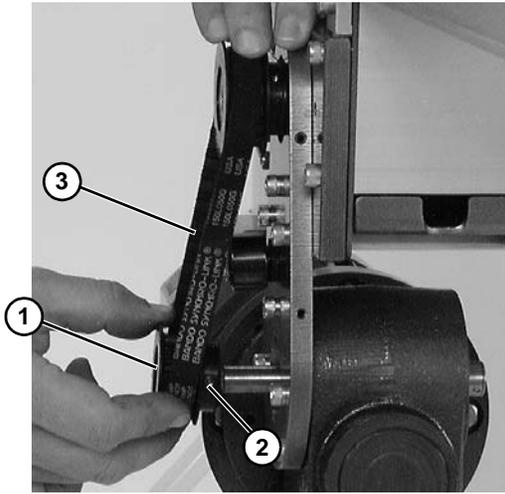

Figure 16
If drive pulley (**Figure 16, item 1**) is replaced, wrap timing belt around drive pulley and complete step 3.
- Loosen drive pulley set screws (**Figure 16, item 2**). Remove drive pulley (**Figure 16, item 1**) and timing belt (**Figure 16, item 3**).